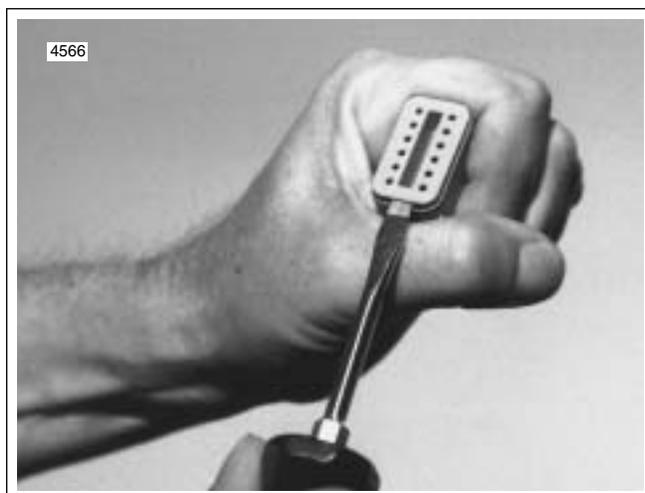

Figure 8-1. Remove Secondary Locking Wedge
1. See Figure 8-1. Remove the secondary locking wedge. Insert the blade of a small screwdriver between the socket housing and locking wedge inline with the groove (inline with the pin holes if the groove is absent). Turn the screwdriver 90 degrees to pop the wedge up.